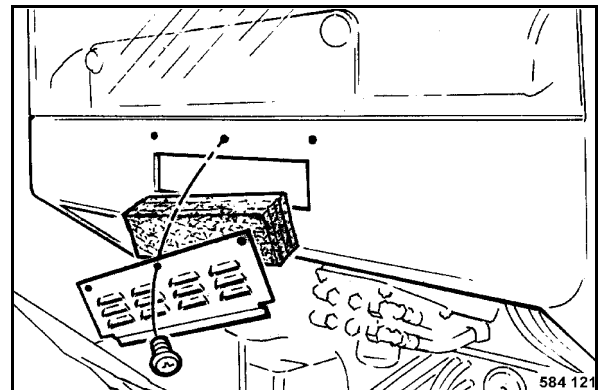

Fig. 197
- Unscrew fastening screws for the ventilation grid (Fig. 197) and remove the filter.